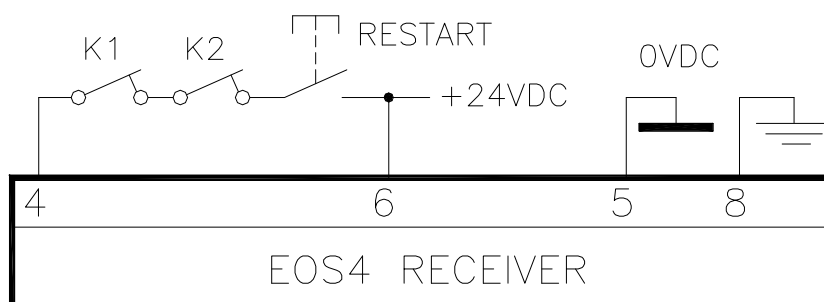

Figure 20 – Manual with K1K2 feedback
- ✱ In the case of manual operation, the RESTART button in series with the NC contacts (feedback) of the external contactors K1/K2 (Figure 20) must also be present.